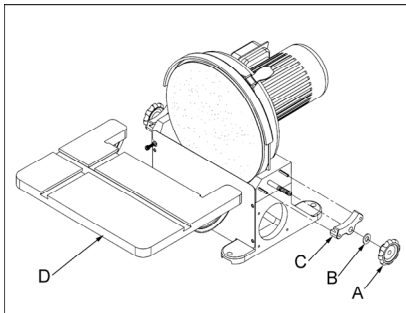

Fig 2
Remove the knobs (A, Fig 2), washers (B) and the trunnion holders (C) on both sides.